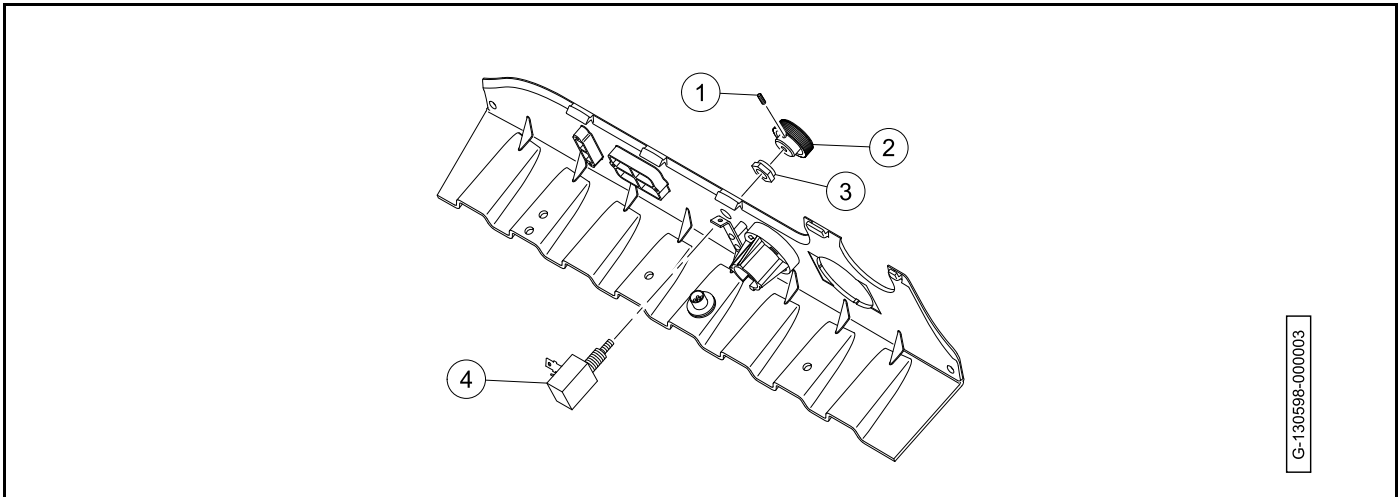

Figure 13-12 Headlight Switch
5. Loosen the set screw (1) (**Figure 13-12, Page 13-14**).
1. Install the headlight switch (4) into the instrument panel (**Figure 13-12, Page 13-14**).
2. Install the nut (3). Tighten the nut to 2.2 lb-in (0.25 N·m).
3. Install the threaded knob (2).
4. Tighten the set screw (1).